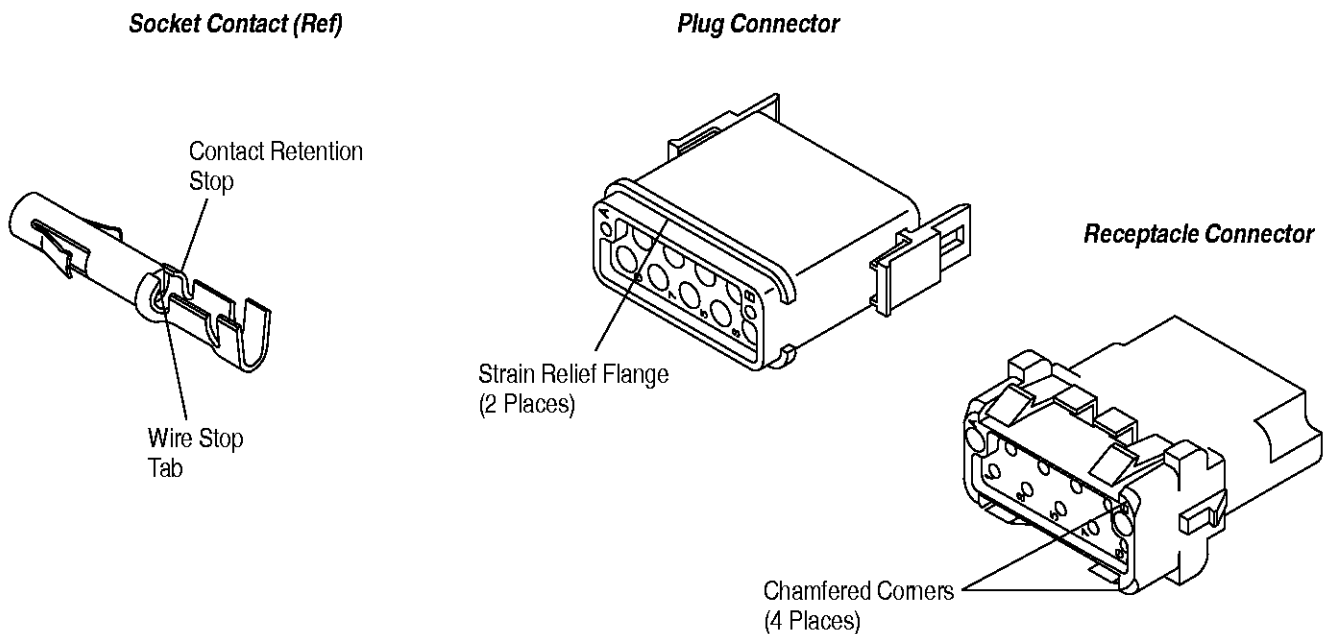

Figure 2
3.5. Special Features (Figure 2)